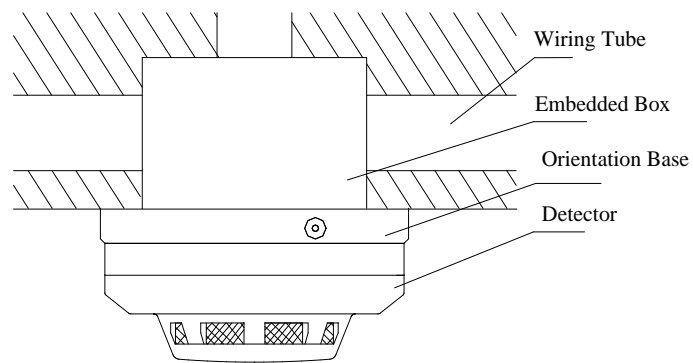

Fig. 2 Mounting
1. Mounting of the detector is shown in Fig. 2.